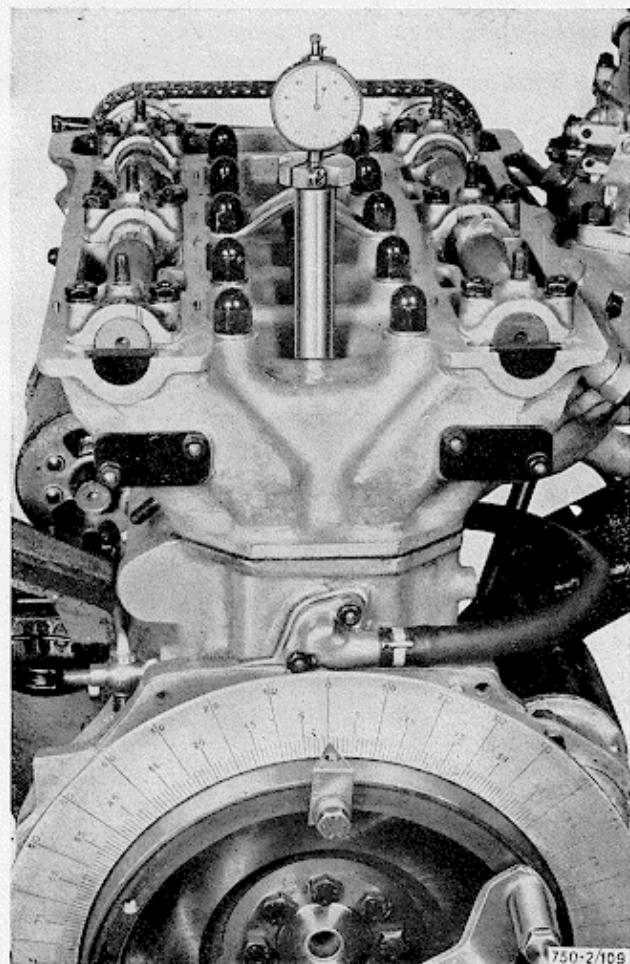

Fig. 109 - Working out the T.D.C. by means of a graduated sector (tool No. 6123.45.003) and comparator gauge
- 1) Place the graduated quadrant (tool 6123.45.003) on the crankcase and rotate the crankshaft until the mark cut in the flywheel comes into line with the zero mark on the quadrant (fig. 109). Into the spark-plug socket for piston N. 4 screw the device for checking the T.D.C. position and bring the gauge on this instrument to the zero position.
- check (using the graduated quadrant which rests on the crankcase as shown in fig. 109) that the valve opening and closing takes place as shown in the following conventional diagram.